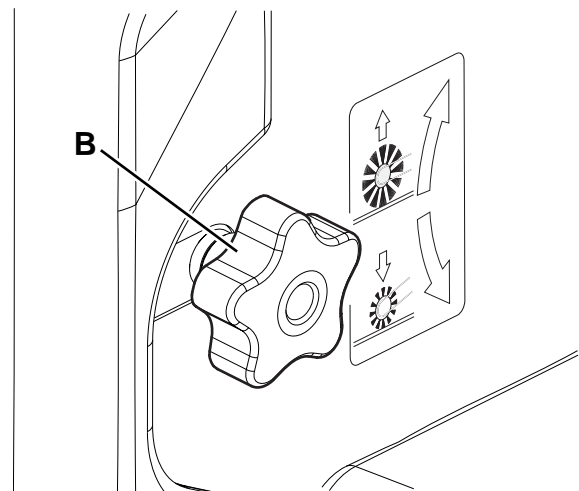

Figure 9
- Turn the knob (B, Fig. 9) as shown below:
- To decrease the print width, lift the main broom with the One-Touch push-button (52) and then turn the knob clockwise.